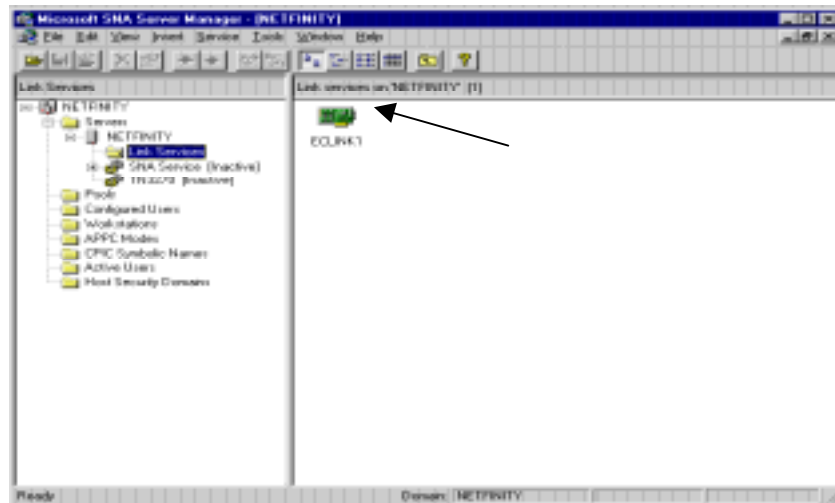

Figure 16-14. ESCON Link Service
1. In SNA Server Manager verify that a link service has been defined for the channel (Figure 16-14).